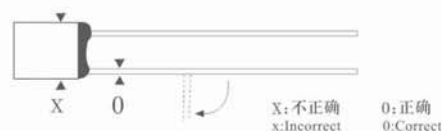

图 2 Fig.2
- 当弯曲引脚时，须用工具操作以确保引脚弯曲有足够弧度，引脚不可在距根部 3mm 内弯曲，在弯曲时工具不可夹着外壳及封口树脂。(见图 2)
- When forming leads, a tool should be used to ensure that the leads are formed with sufficient curve. Leads should not be bent closer than 3mm to the thermal cutoff body. Holders or tools used during lead forming must be kept away from seal or body. (see Fig2)